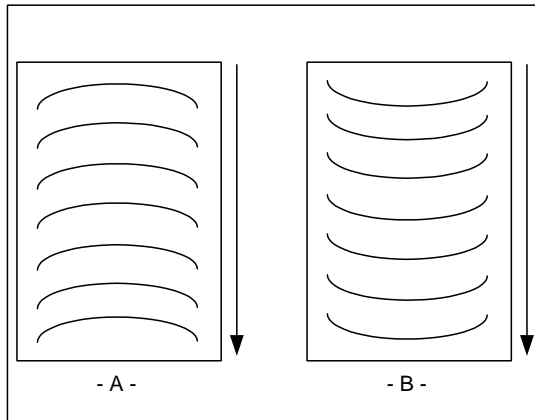

Fig. 24
- "D" waves in the image (Fig. 24 A&B).
- "D" waves in the laminate (Fig. 24 A&B).